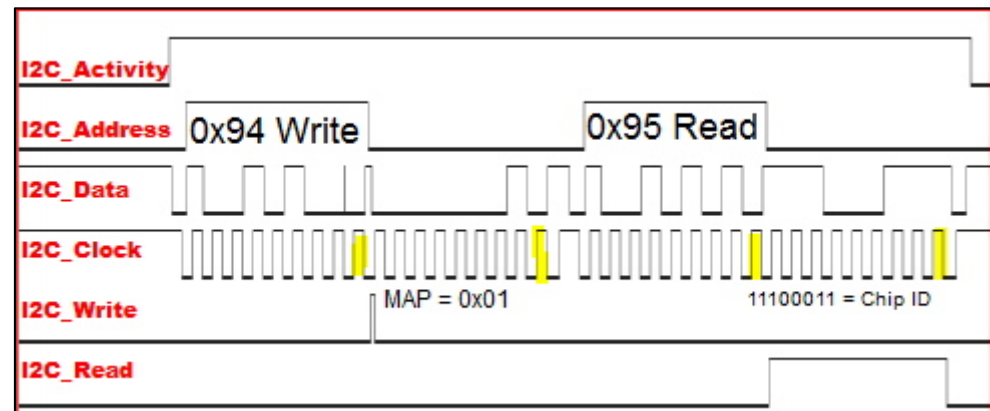

Figure 9 – Sample I2C Communication [7]
- From Figure 9, it can be seen that data is placed on the bus and then the clock undergoes a complete transition from low – high and then back again.